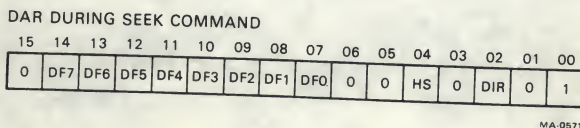

Figure 8 DAR Seek Command
**DAR During a Seek Command** To perform a seek function, it is necessary to provide address difference, head select, and head directional information to the selected drive as indicated in Figure 8. The word format is described in Table 4.